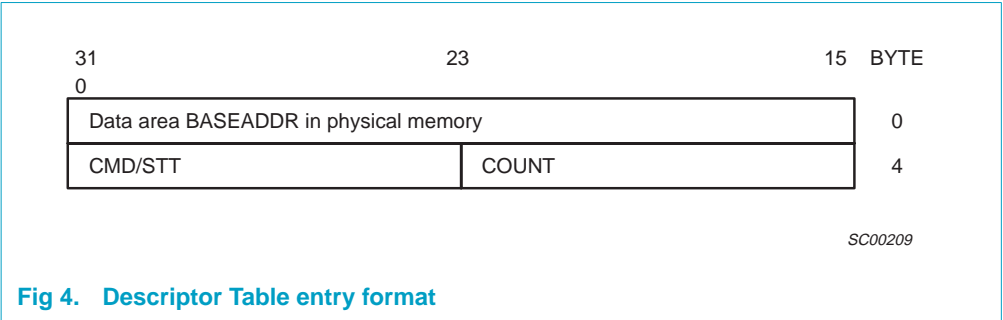

Fig 4. Descriptor Table entry format
All DMA transfers use Descriptor Tables (DT). The DT must be contiguous in the Host memory, and each DMA channel must have its won DT set up as one buffer. For transmission, each DT must have not empty DT entries, and the last entry of a DT must point to valid data, or to a linked descriptor table. Each DT entry is 8 bytes in size. It contains the base address, byte count and command/status bits as illustrated in Figure 4.